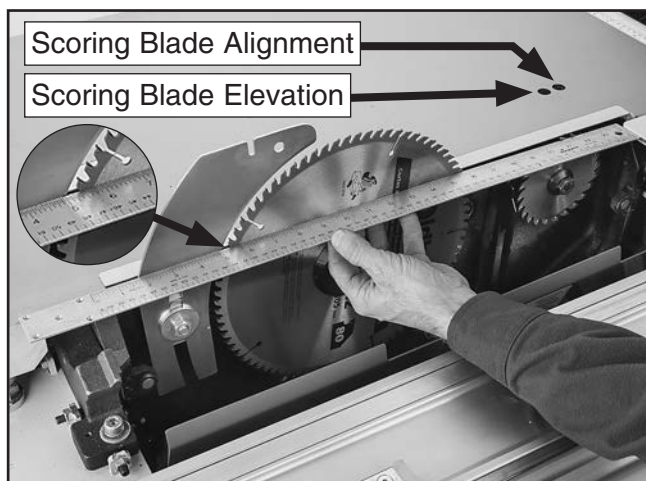

Figure 37. Access holes for scoring blade adjustment controls.
30. Use straightedge to make sure riving knife or splitter/riving knife and scoring blade are aligned with main blade, as shown in **Figure 37**. The alignment should be with blade bodies, not carbide teeth (see inset).
— The scoring blade alignment can be changed by adjusting bolt accessible through table top (see **Figure 37**). Refer to **Aligning to Scoring Blade** on **Page 48** for more details.